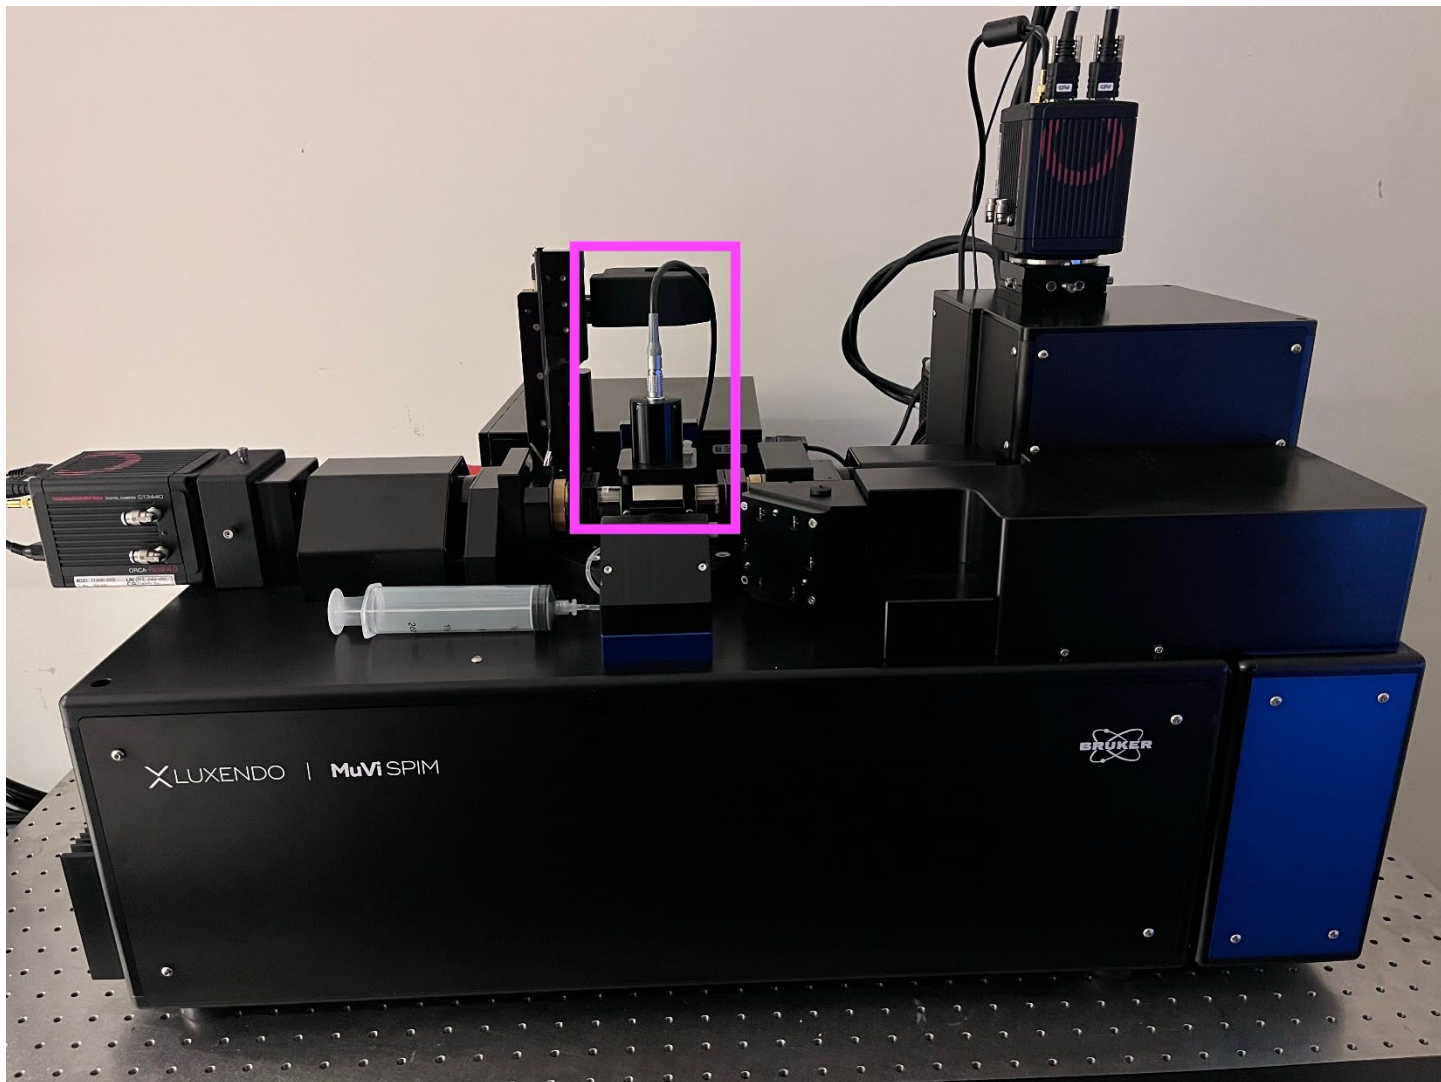

Figure 2. Interlock relay switch is located on the back side of the chamber lid.
2) Depress interlock relay switch next to the heated lid (**Fig 2.**)